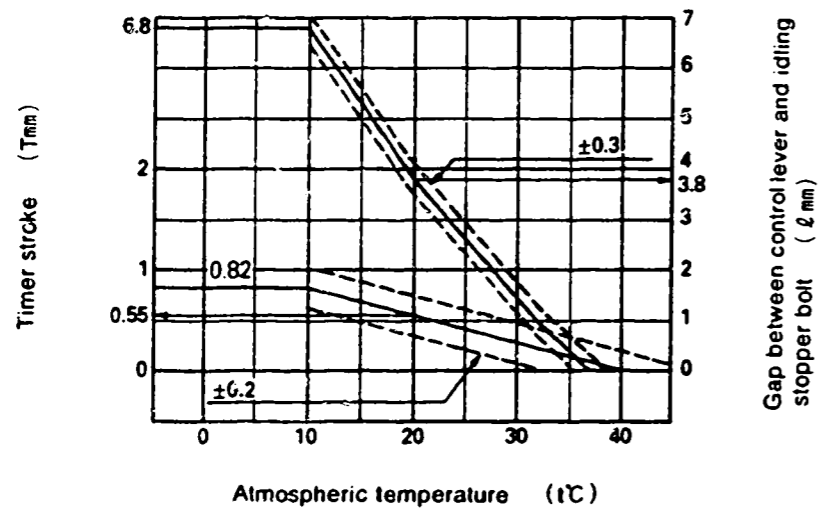

Fig. 2
1. Calculate the timer stroke from Fig. 2 according to the atmospheric temperature at the time of adjustment.
Formula for calculating Fig. 2 $10 \leq t \leq 20$ $T = -0.027t + 1.09$
1. Calculate the block gauge dimension $l \pm 0.05$ mm from Fig 2 according to the atmospheric temperature at the time of adjustment.
2. Insert the block gauge (thickness gauge) selected in Step(1) above between the bracket and the idling stopper bolt.